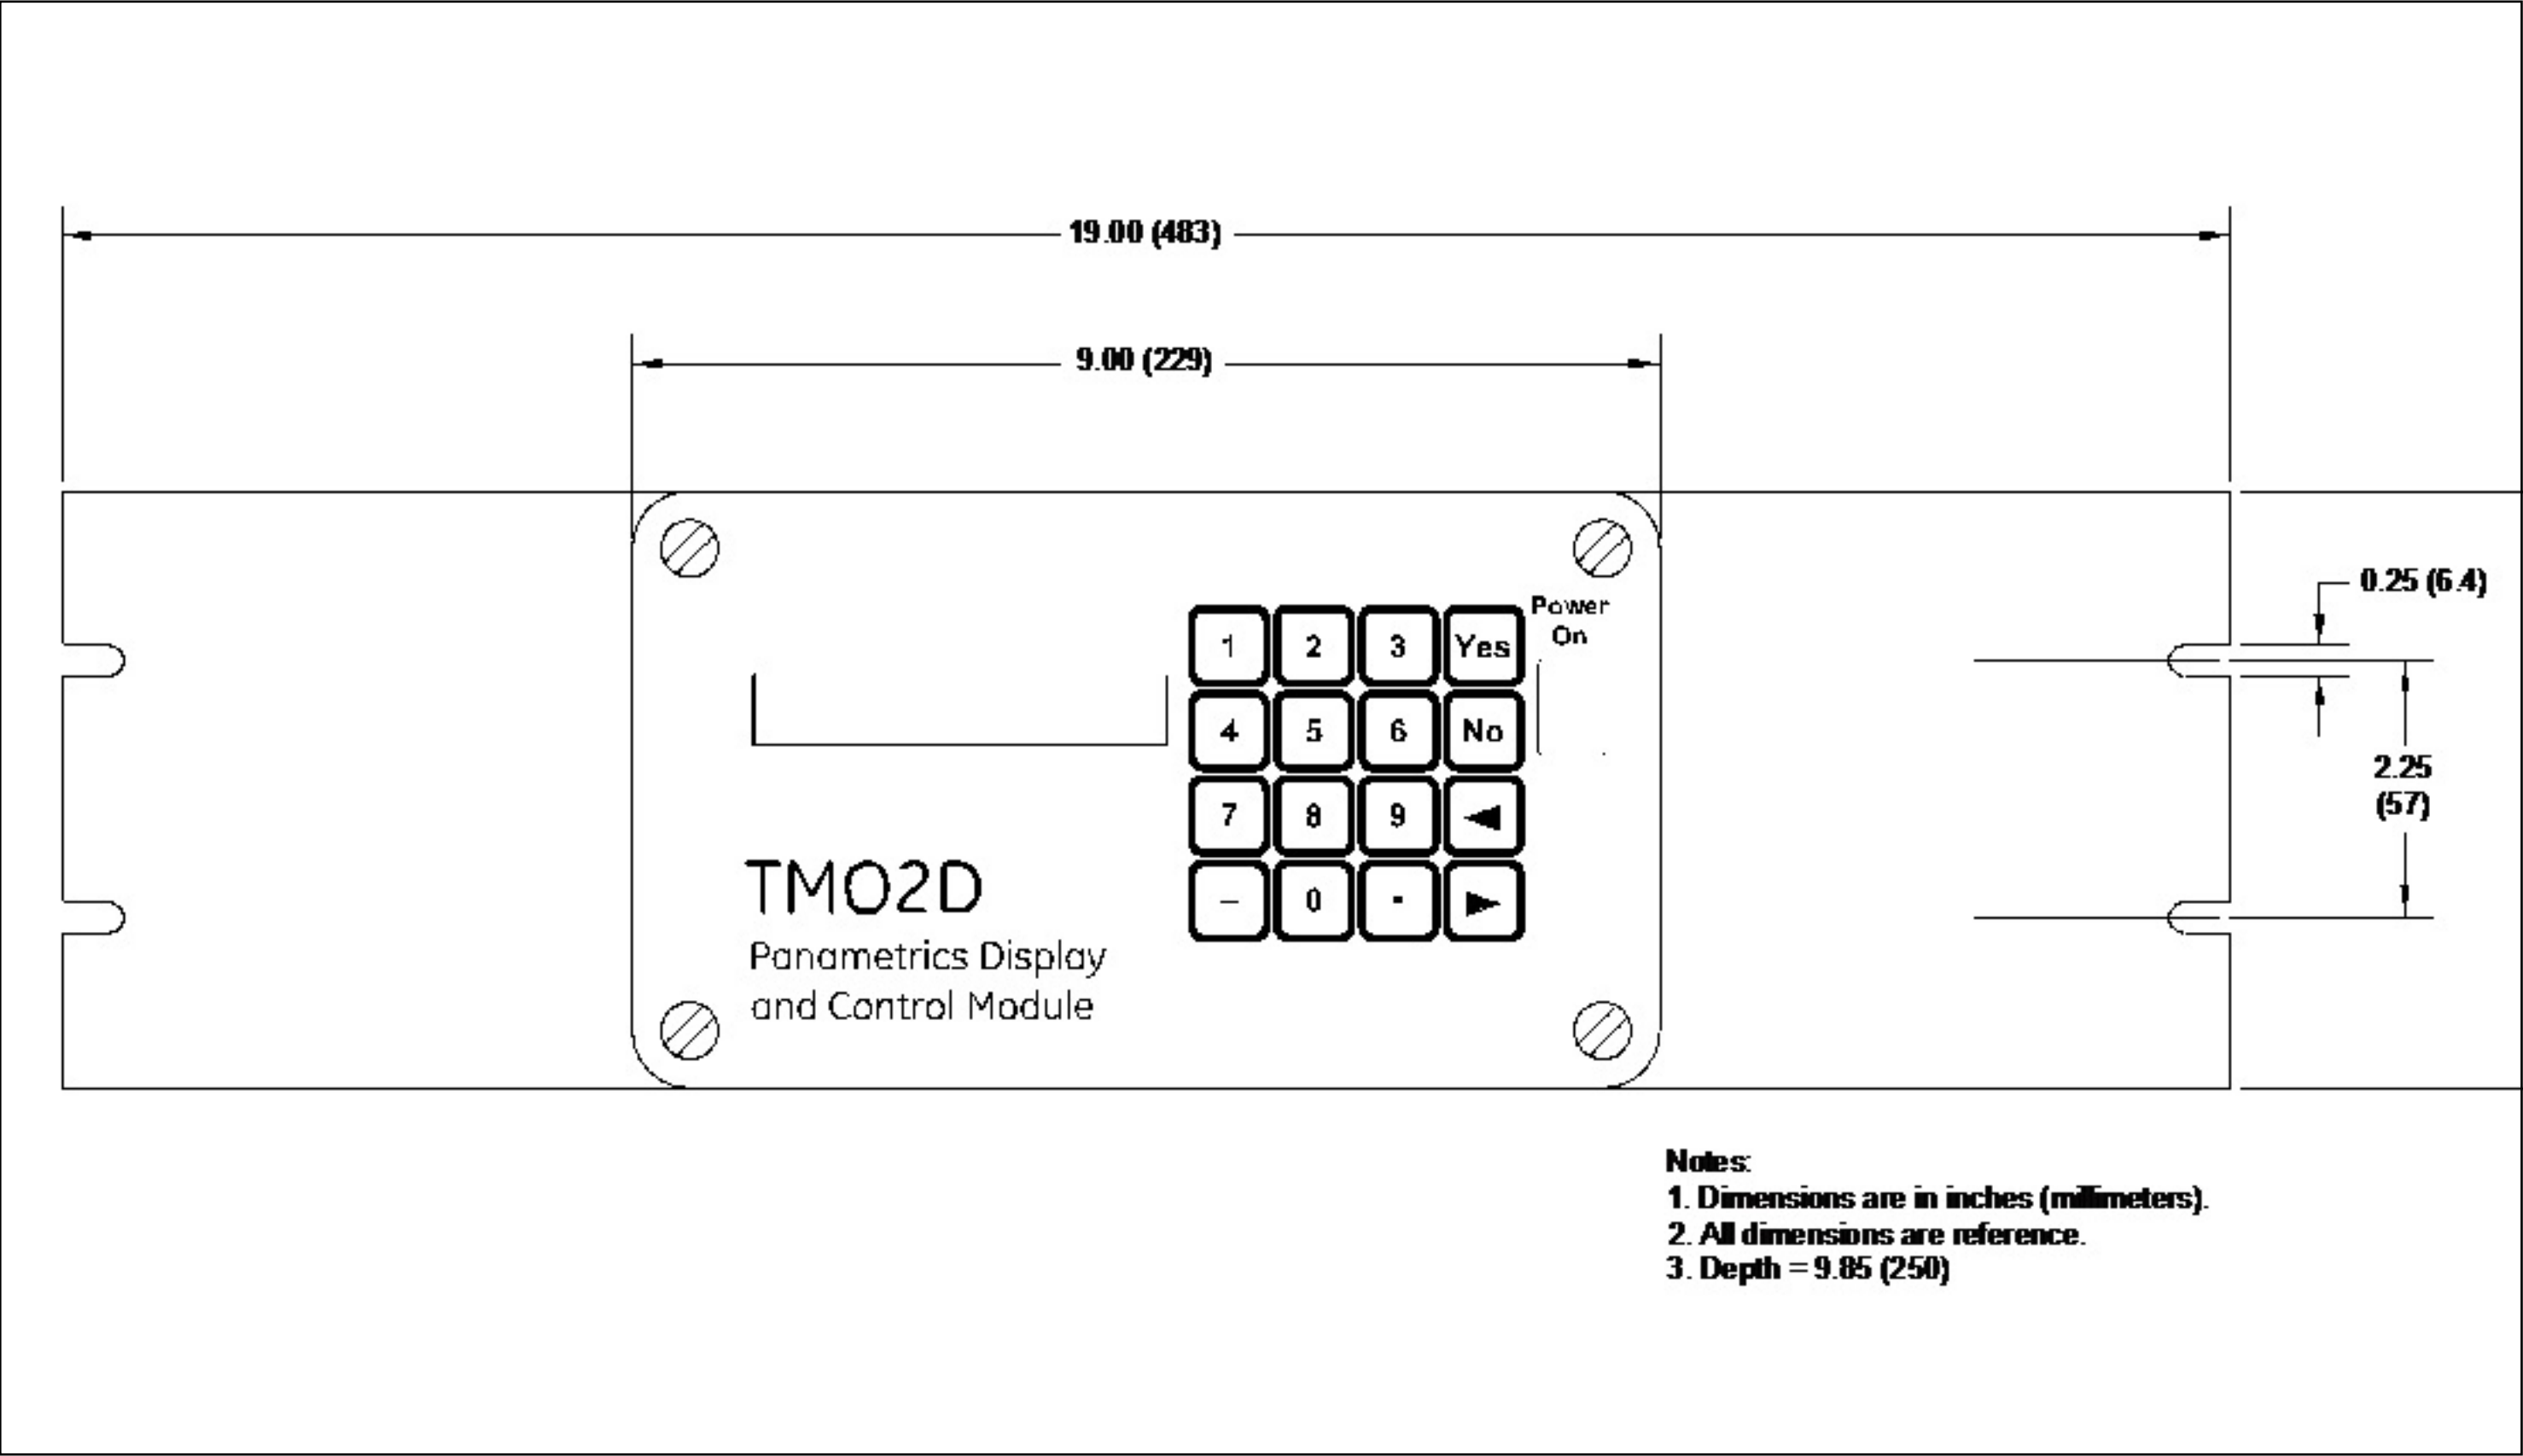

Figure 16: Rack Mount Outline (ref. dwg #712-220)
- *Figure 16:* Rock Mount Outline